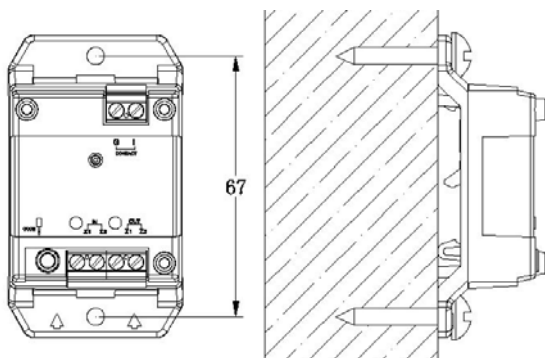

Fig.5
- 4) The module can also be installed in the enclosure by 4 mounting screws as shown in Fig.5.